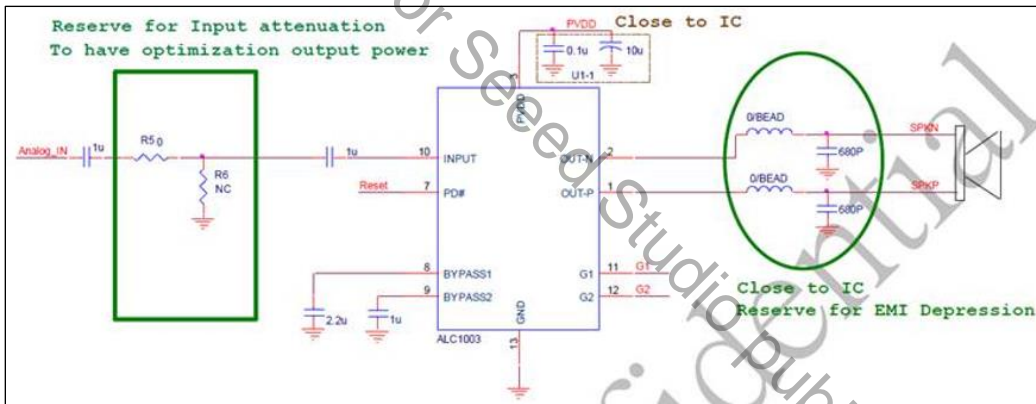

Fig 23-17 Reference design of using D type power amplifier
- If the power amplifier is a D type amplifier, refer to the design shown in Fig 23-17 (power amplifier is ALC1003).